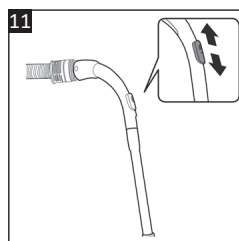

Fig. 11
- When it is difficult to move the floor brush (18) over the floor or carpet, you can also adjust the suction power with the Suction power regulator (8) on the handle of the suction hose (**Fig. 11**). Slide the switch up/down to adjust.